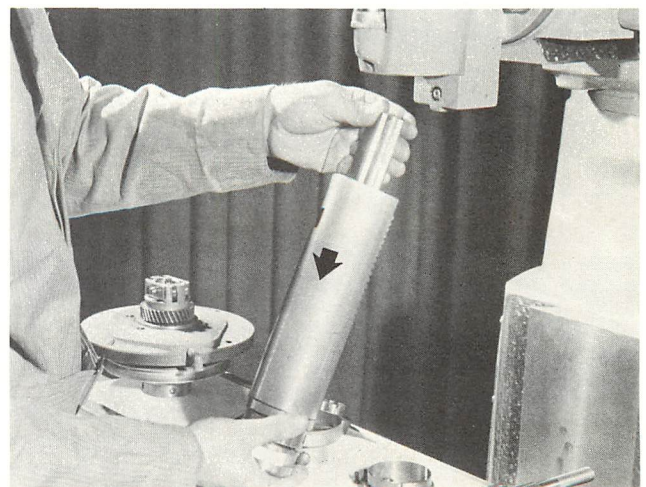

FIGURE 14B
6. Push spindle (132B, page 32) and sleeve up high enough to remove stop key (154B) and lower sleeve assembly down out of head. [See Figure 14B.] Stop key contacts depth adjusting stop (159B).